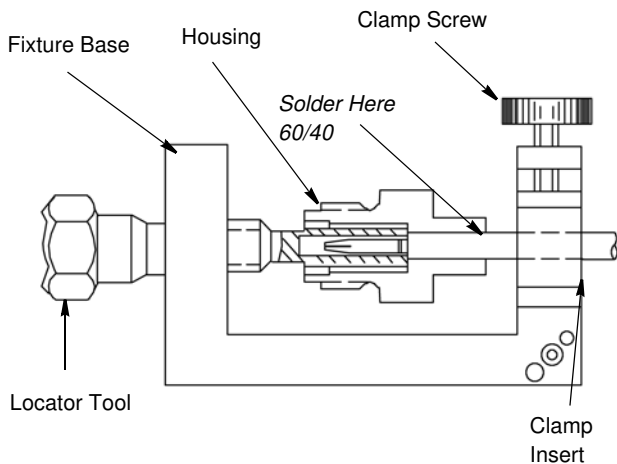

Figure 4
3.3. Soldering of Cable Sub-Assembly to Housing (Figure 4)
2. Place loose assembly in fixture base as shown in Figure 4.